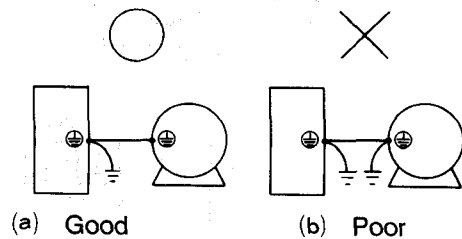

Fig. 3.10 Grounding of Motor and VS-626VM3C
- (4) Phase rotation of input terminals (R, S, T) is available to each direction, clockwise and counterclockwise
- (5) Never connect the power supply to output terminals (U, V, W).
- (6) Connect inverter output terminals (U, V, and W) to corresponding motor terminals (U, V, and W).
- (7) It is possible that failures caused by grounding or short-circuiting of output cables may occur. Be careful not to let cables come in contact with the case.
- (8) Never connect phase advance capacitors between the inverter and the motor. (Fig. 3.10)